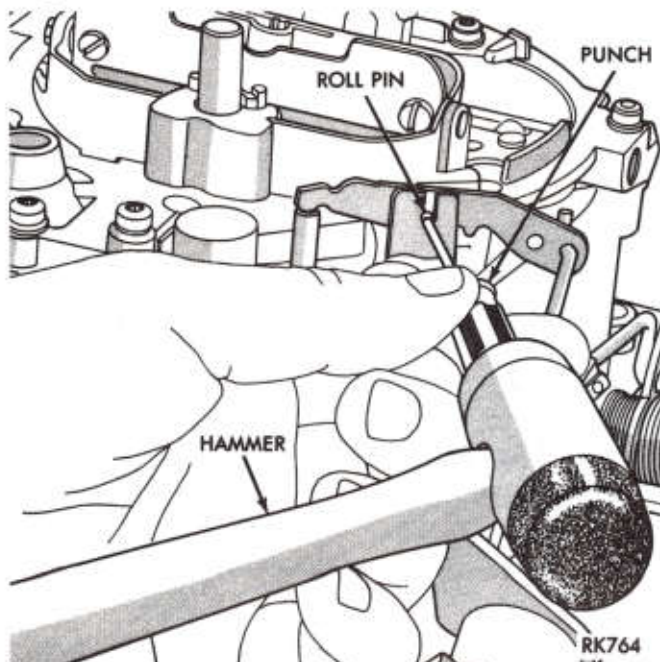

Fig. 12—Removing Roll Pin
(4) Using a small drift punch and a hammer, drive roll pin inward until pump lever can be removed (Fig. 12).